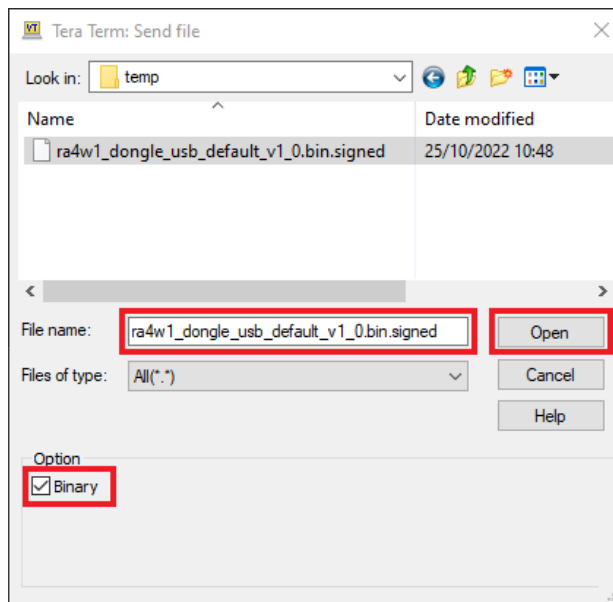

Figure 13. Selection of Software Image
- Select **File > Send file...** from the menu. On the opened window (Figure 13) select **Binary**, navigate to the location of the software image file, select it, and click on the **Open** button. Now the terminal emulator program sends the whole file. LEDs D3 and D4 blink in antiphase and a pop-up window displays the transfer progress, which takes approximately 10 seconds.